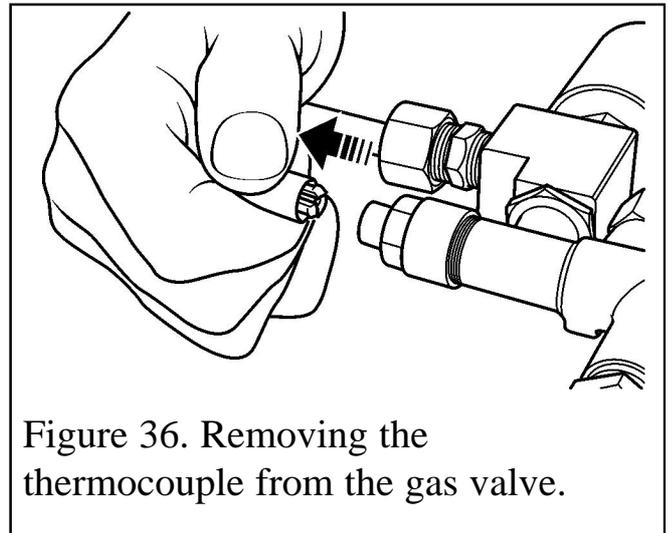

Figure 36. Removing the thermocouple from the gas valve.
3. Remove the thermocouple 'push on' connector to the gas valve. To do this, firmly hold the thermocouple connector and gently pull it clear of the gas valve (See figure 36).
3. Remove the thermocouple 'push on' connector to the gas valve. To do this, firmly hold the thermocouple connector and gently pull it clear of the gas valve (See figure 36). **Never hold the thermocouple wire when pulling.**